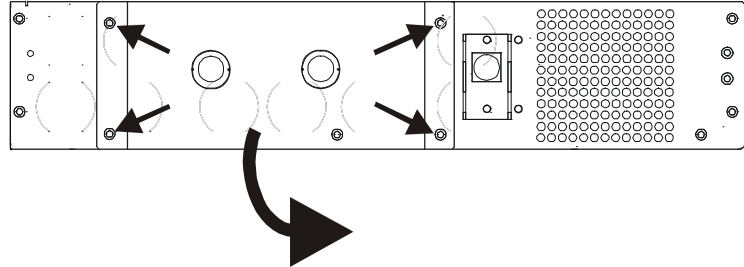

Figure 3.1 Removal of Panel
- Remove the 4 screws that retain the access panel at the rear of the unit as shown in Fig. 3.1. and set aside. These screws will be used later for re-installing the panel.